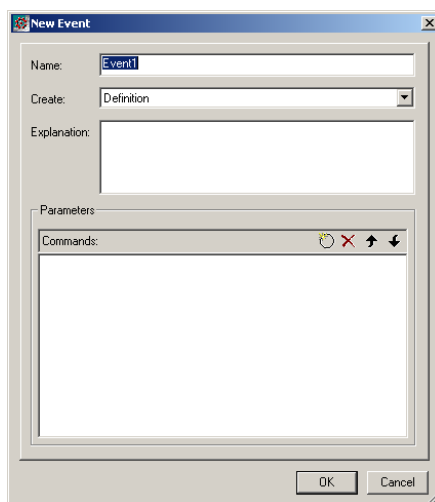

Figure 70: New Event dialog box (Designer)
- 3 In the Element section, click the element type to create, for example Event, and click the New button. A New Event dialog box is displayed. See *Figure 70*, page 85.